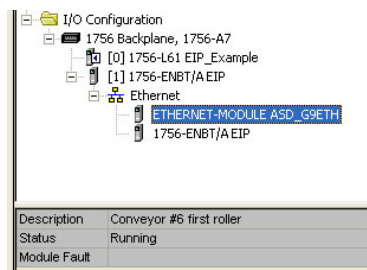

Figure 81: Online Module Status
- 7) Switch to online mode and download the project to the PLC. Verify that the newly-added drive is available and operating correctly by observing any indications shown on the drive's icon. When the drive's icon is selected, its status and any available error messages will be displayed in the area below the project tree. Refer to Figure 81. Also confirm that the interface card's "Network Status" LED should be solid green, indicating an "online/connected" state.